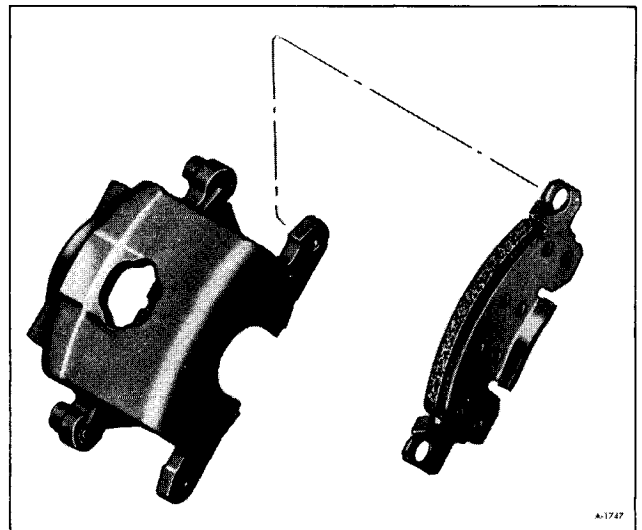

Figure 57—Installing Outboard Shoe
5. Insert new outboard shoe into caliper making sure no clearance exists between shoe and caliper face. (figure 57)